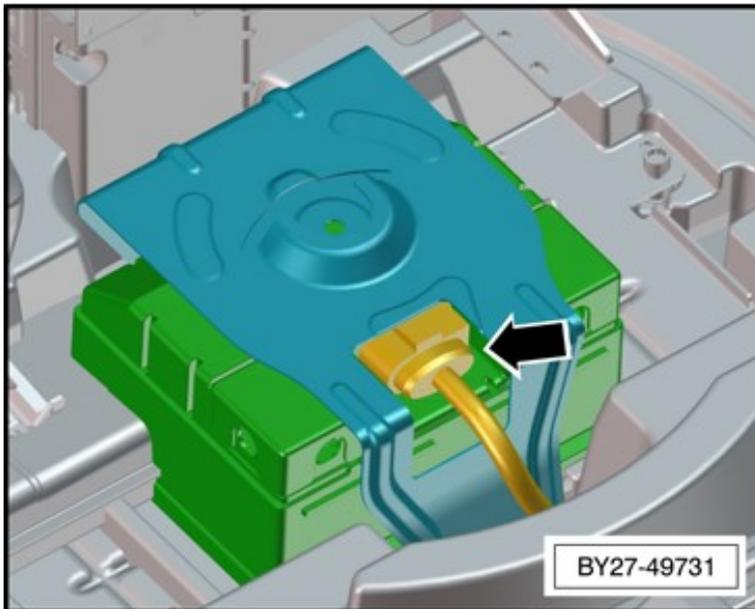

Figure 2
3) Referring to Figure 2 - Check the security of the harness connector